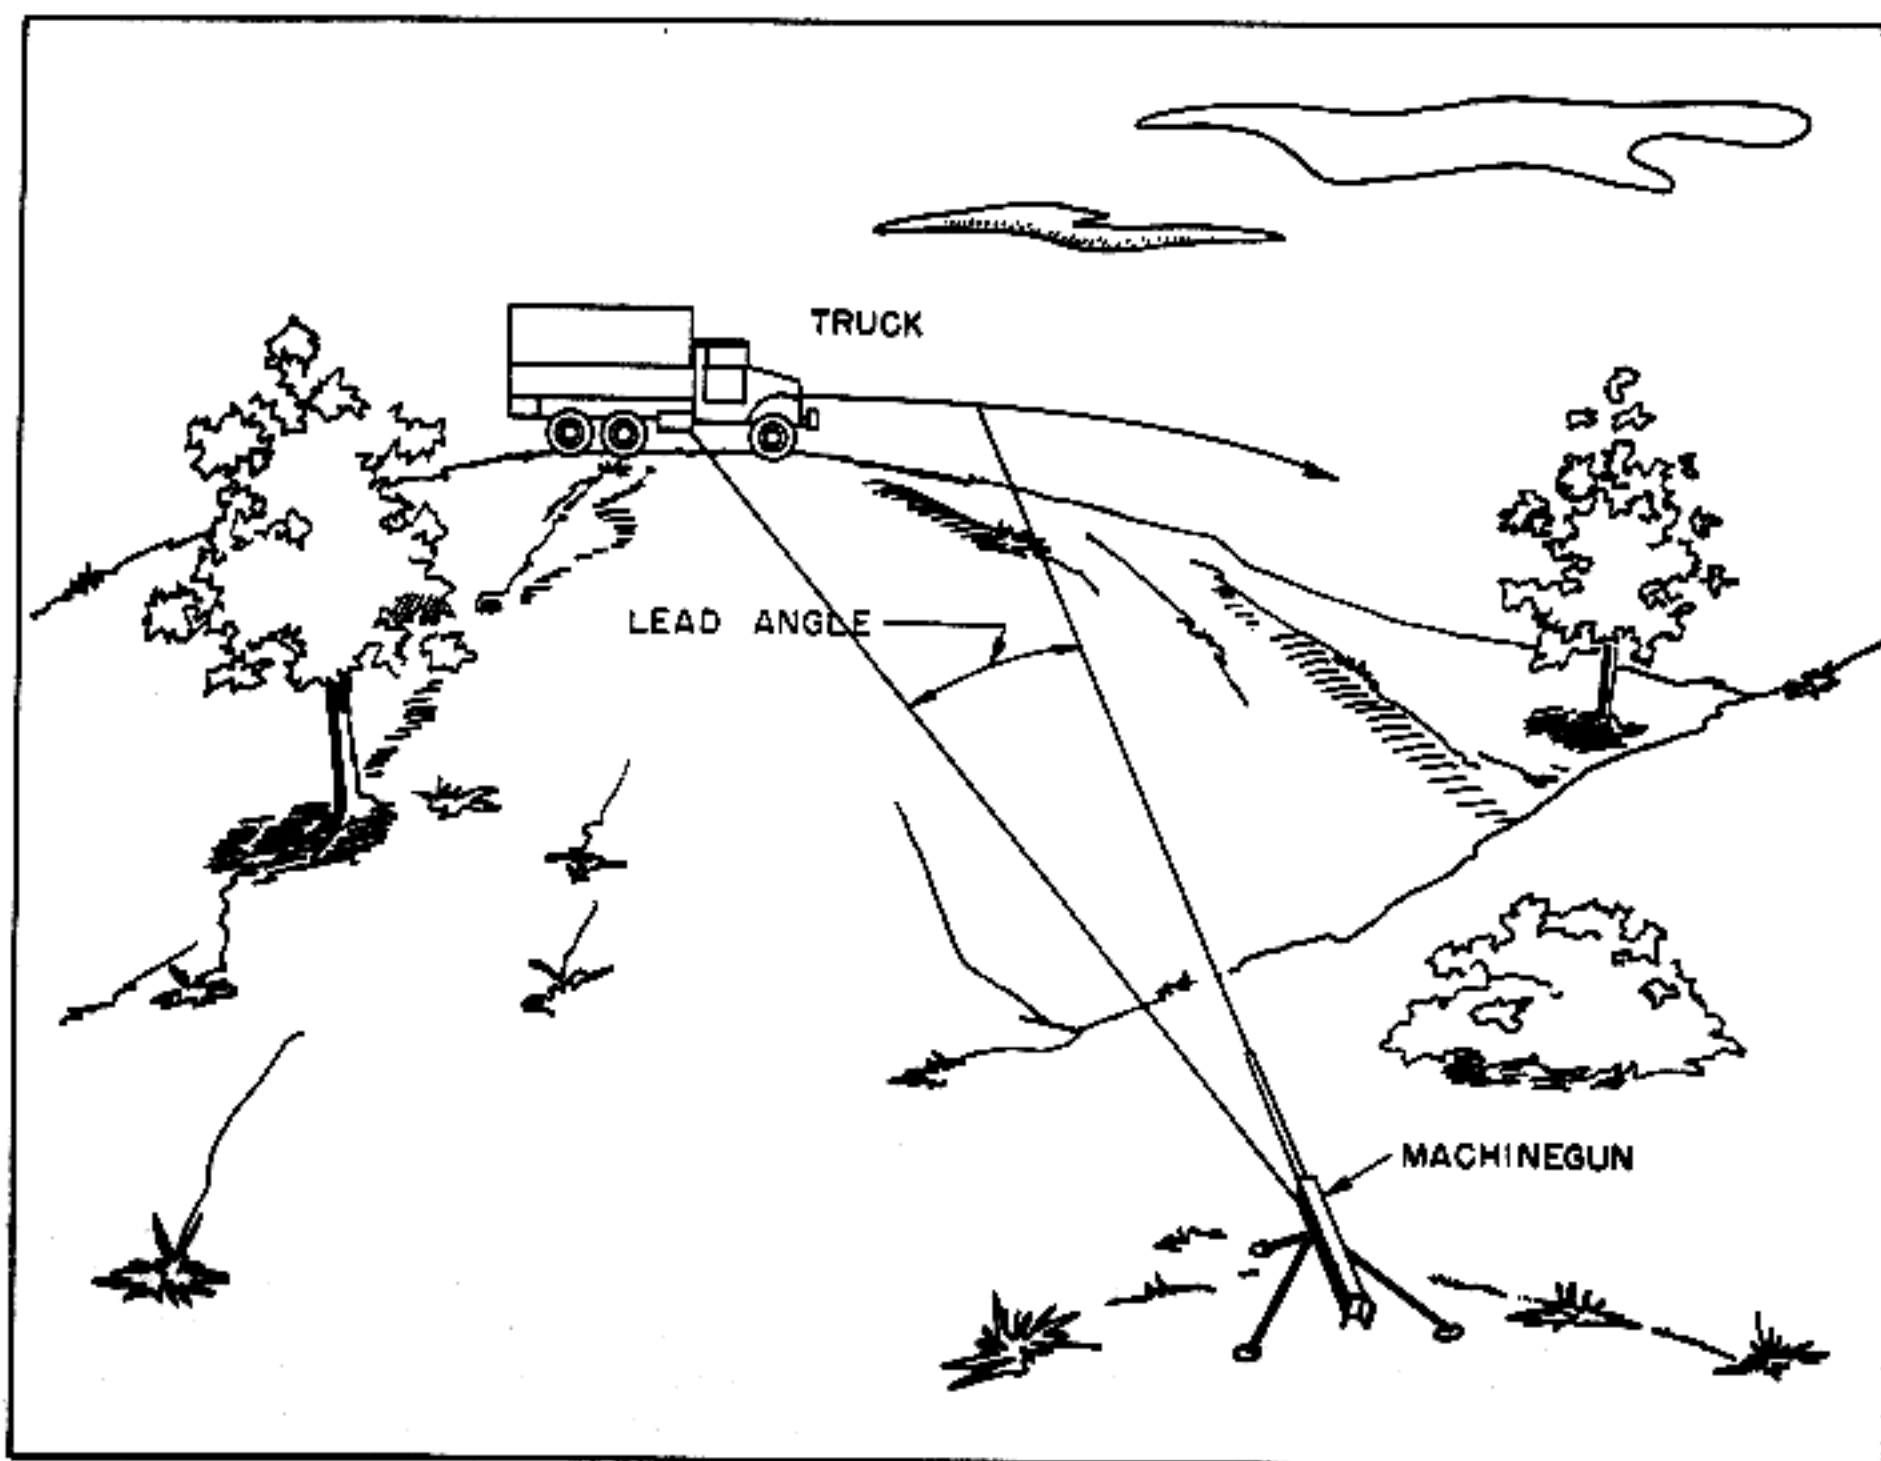
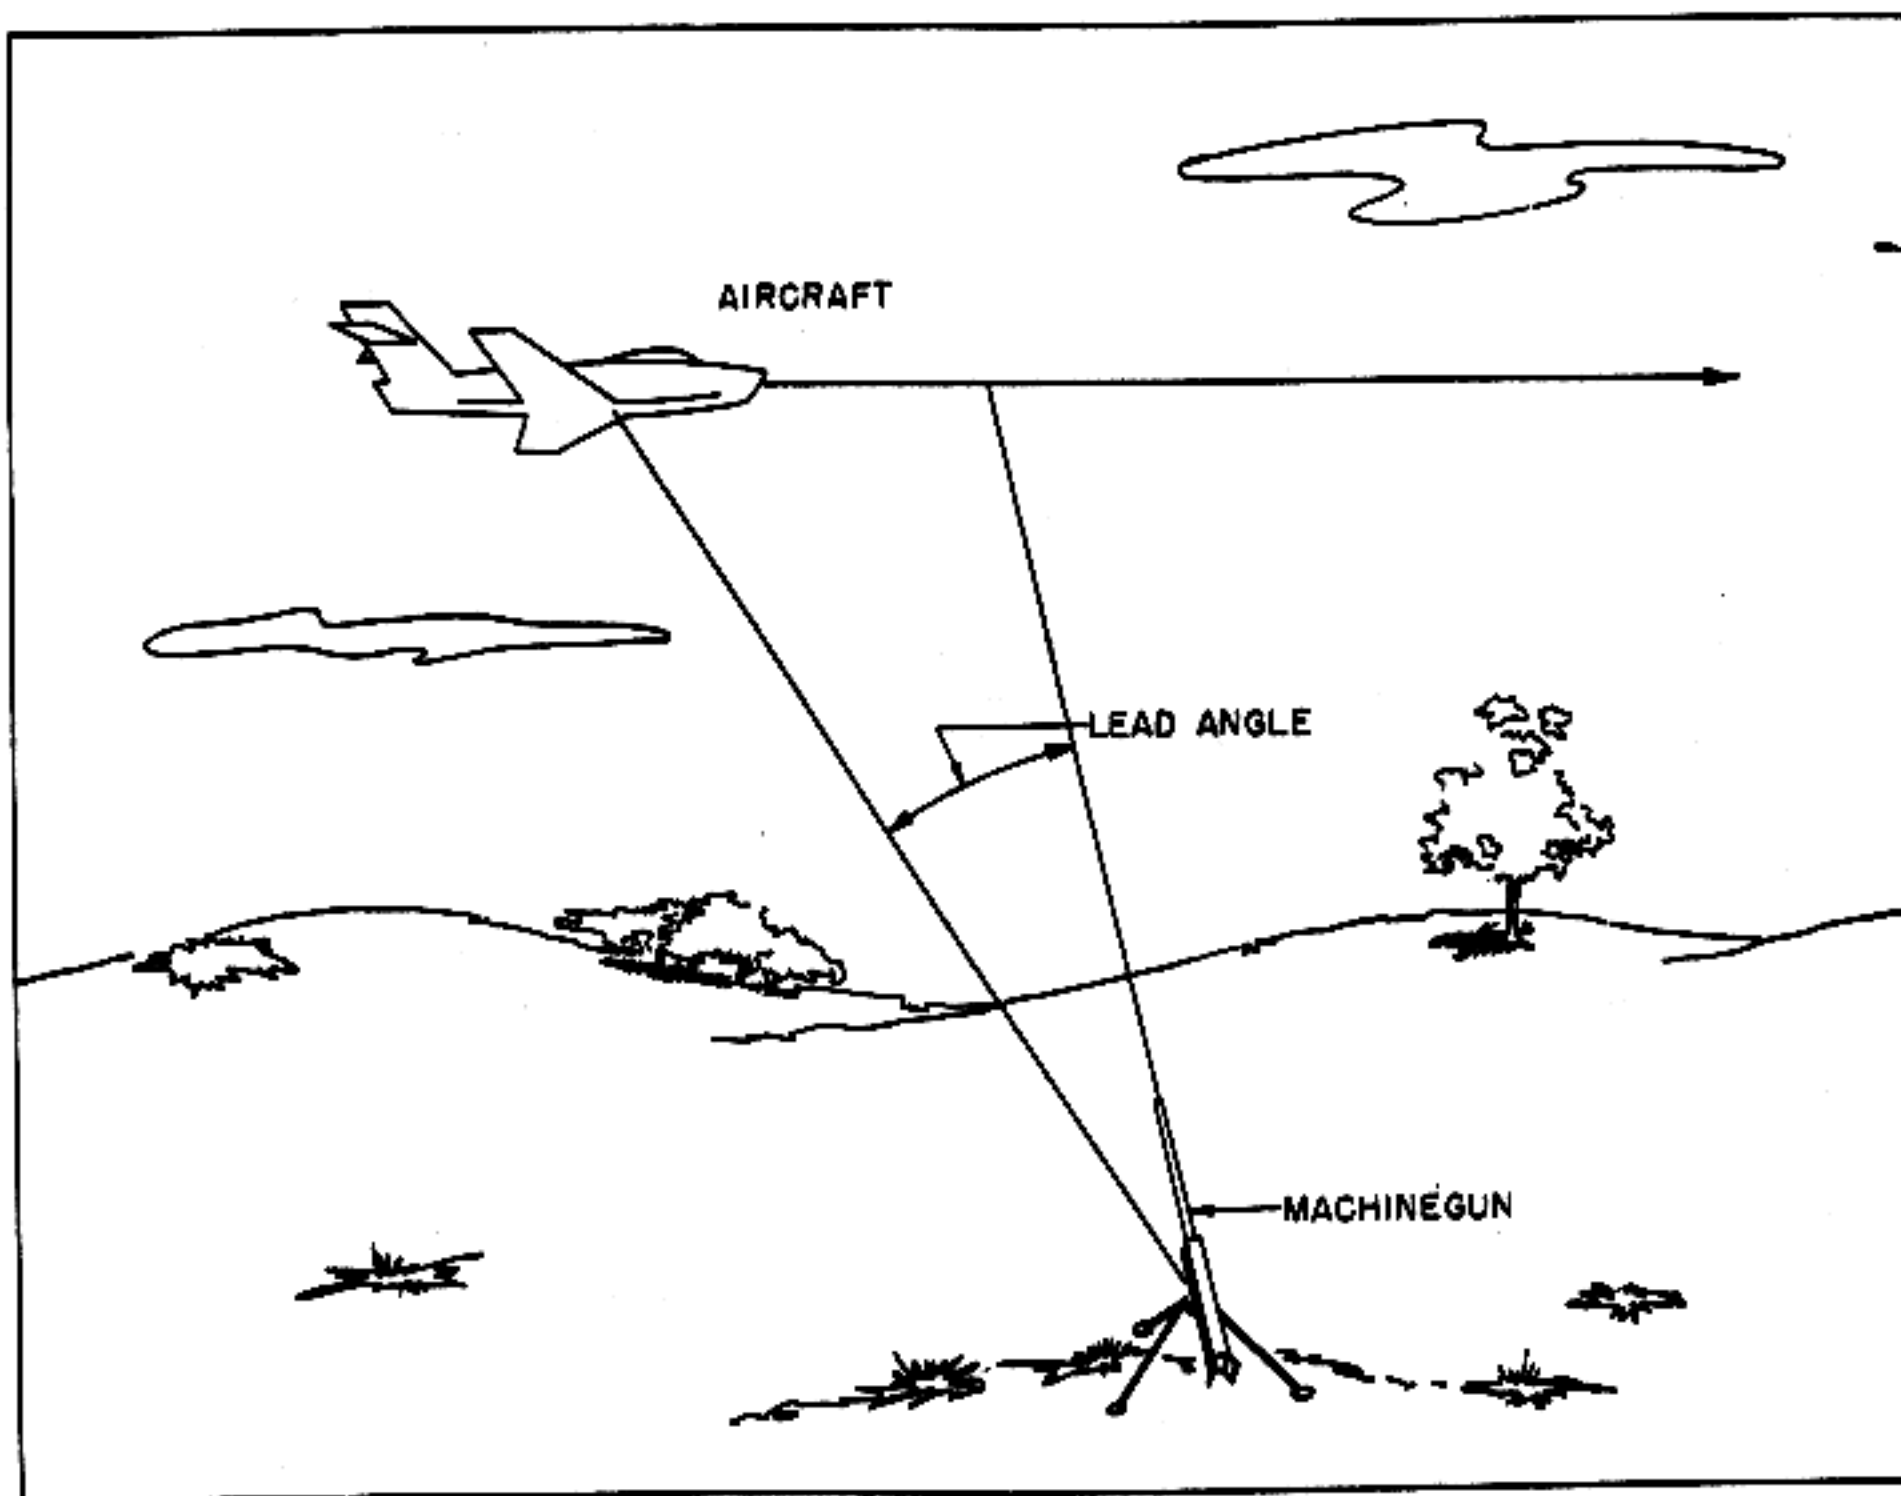

Figure 170. Lead angle, moving ground target.
Figure 171. Lead angle, aerial target.
b. The problem can be compared to that of a machinegun firing up a hill. Laying the gun in elevation is accomplished by tracking the target. In figure 170, despite the fact that the vehicle is moving along the side of a hill, the machinegunner concerns himself with only a 1-lead angle measured along the slope of the hill. If the vehicle is replaced by an aircraft, and the hill is replaced by air space (fig 171), it is apparent that the gunner's problem in figure 171 is identical to that in figure 170. (There is a faster speed in the case of the aircraft.) To hit the target, the gunner must fulfill two requirements: *line and lead*.